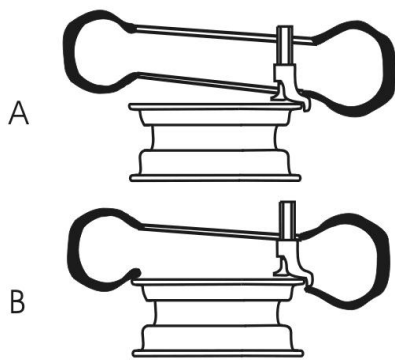

Fig.22
- Adjust relative position between the tire and the mount/demount head to make the tire bead cross the mount/demount head. At the end of the mount/demount head, the tire bead should be placed on the mount/demount head as fig. 22-A; At the beginning of the mount/demount head, the tire bead should be placed under the ball protuberance of the mount/demount head (as fig.22-B) .